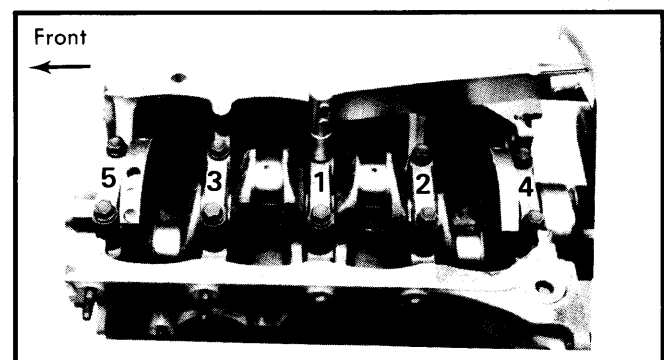

Fig. 6 Main Bearing Tightening Sequence (Loosen in Reverse Order)
3) Install crankshaft and main bearing caps with arrows on caps facing front. Tighten bolts to tightening specifications and in sequence shown in Fig. 6. Measure crankshaft thrust clearance. If clearance exceeds .012" (.3 mm) replace thrust washers to achieve standard clearance of .0008-.0073" (.02-.18 mm).